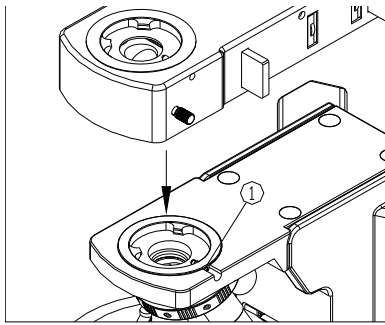

Fig.9
- (1) Loosen the lock screw① of the Epi-Illuminator fully. (See Fig. 9)
- (2) From a little right position, insert the coattail interface on the bottom of Epi-Illuminator into the hole on the stand with a little left inclined, and then screw down the lock screw.